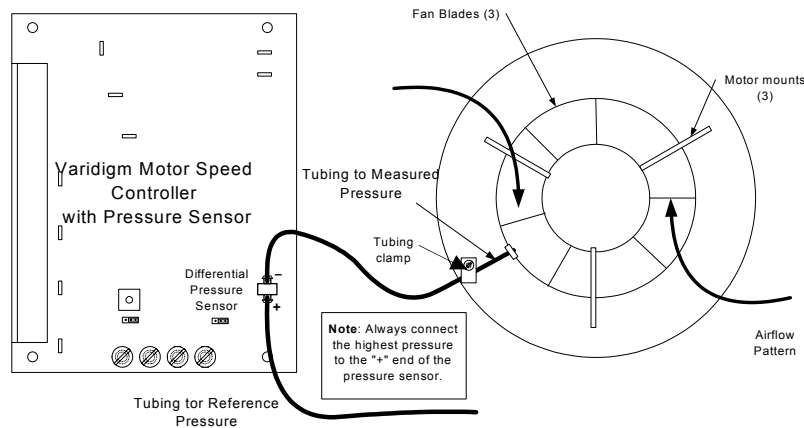

Figure 3
6. Connect the end of the sensor probe to the pressure sensor located on the VSM-CP2 or -CP3 controller using 1/8 inch internal diameter flexible plastic tubing. *Always connect the highest pressure (either pressure or vacuum) to the end of the pressure sensor marked “+”.* Note in Figure 3 below the lower pressure is at the fan, therefore the flexible tube is connected to the “-” side of the pressure sensor.
8. A typical installation is shown in Figure 3 below.